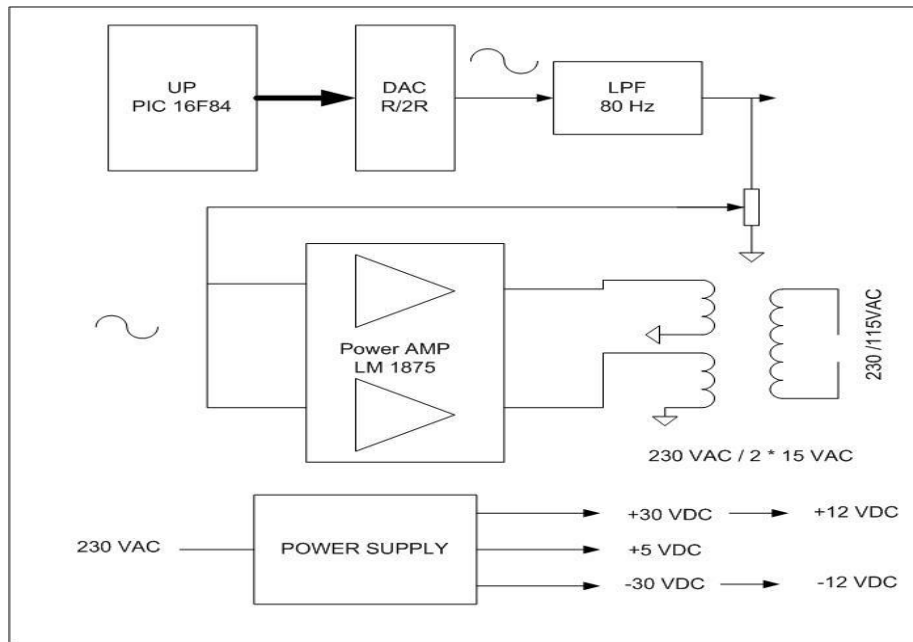

Figure 1: PSG-2 block diagram
Today's technology will help us generate a signal that will vary around 50 (60) Hz by the use of a microprocessor. Fig 1 shows the block diagram of the PSG-1: a microprocessor running at 20 MHz drives a digital analog converter to generate a 50 Hz low voltage signal. Each period is generated with 200 intermediate steps. The signal then goes through a low pass filter that eliminates the staircase effect of the quantification. The final stage is an audio power amplifier driving a step-up transformer for an output signal of 115 or 230 VAC. A 9 positions switch allows for a 1,5% variation of the frequency around the nominal value. Different voltages are necessary for the PSG-1: +/-30V for the amplifier, +/-12V for the low pass filter and +5V for the microprocessor.